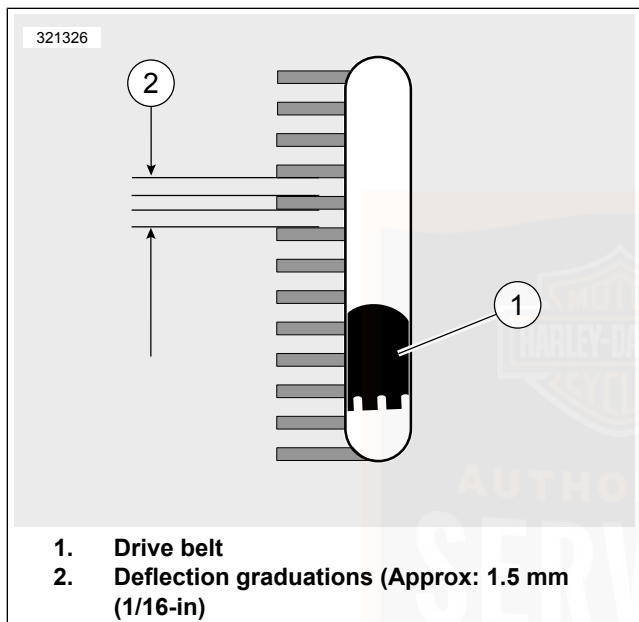

Figure 64. Belt Deflection Window
- b. **All other models:** See Figure 64. Measure amount of deflection (4) while holding gauge steady.